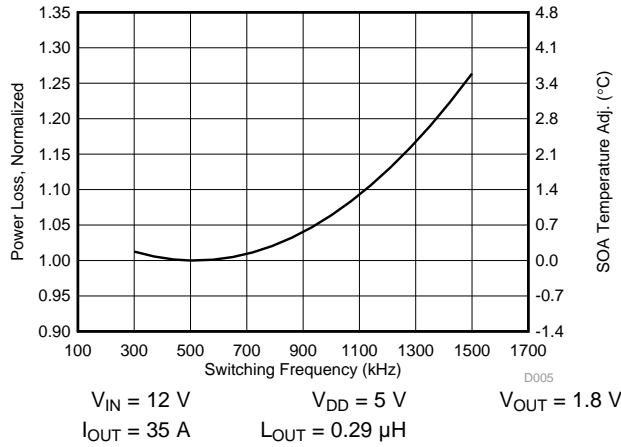

Figure 8. Normalized Power Loss vs Frequency
- Normalized power loss for switching frequency  $\approx$  1.02 (Figure 8)
- SOA adjustment for switching frequency  $\approx$  0.3°C (Figure 8)